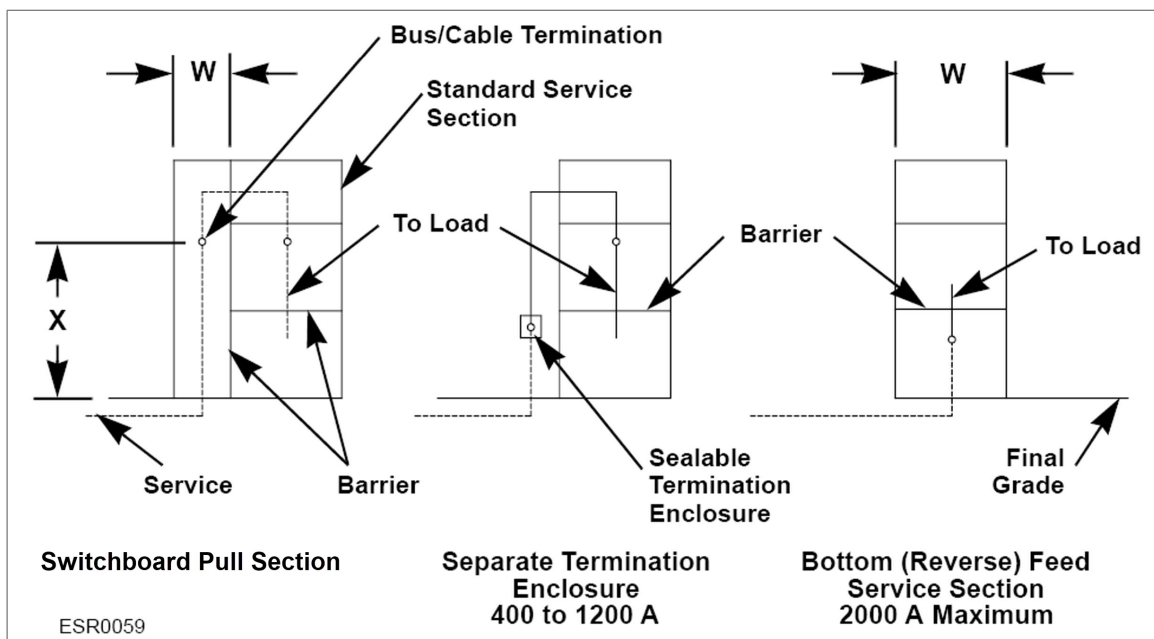

Figure 97: Underground Service Termination Switchboard Service Section, 400 to 3000 A, 0 to 600 V (EUSERC 345)
- For pull section details when used on underground services, see **Figure 97** (or refer to EUSERC 345) and **Table 28**.
Table 28: Minimum Pull Section Dimensions (Applies to Figure 97 only)
Follow these requirements when installing an underground service termination switchboard service section, 400 to 3000 A and 0 to 600 V (EUSERC 345), such as that shown in **Figure 97** above:
- The minimum dimensions in **Figure 97** are for vertical entry at the top or bottom only. Side or rear entry of the service cable into the pull section may require a greater dimension than that shown in **Table 28** above.